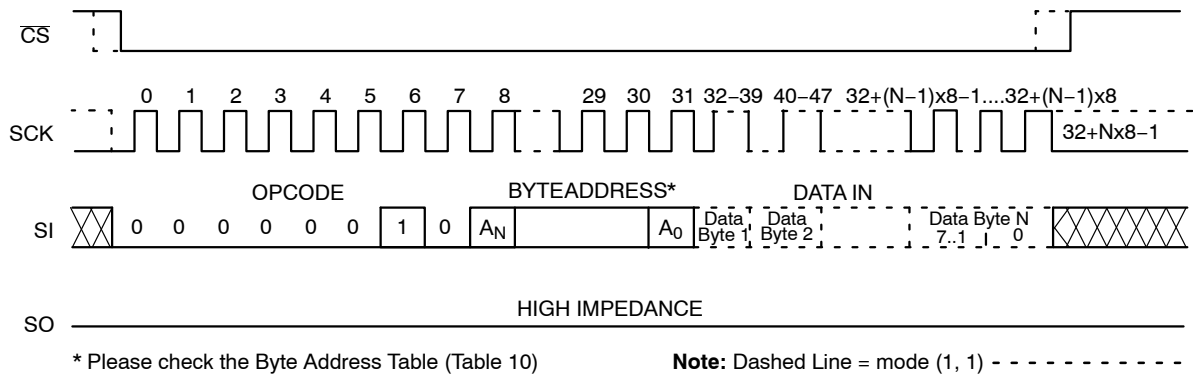

Figure 6. Page WRITE Timing
After sending the first data byte to the CAV25M02, the host may continue sending data, up to a total of 256 bytes, according to timing shown in Figure 6. After each data byte, the lower order address bits are automatically incremented, while the higher order address bits (page address) remain unchanged. If during this process the end of page is exceeded, then loading will “roll over” to the first byte in the page, thus possibly overwriting previously loaded data.
The 256-byte Identification Page (IP) can be written with user data using the same Write commands sequence as used for Page Write to the main memory array (Figure 6). **The IPL bit must be set (IPL = 1) using the WRSR instruction, before attempting to write to the IP. Prior to any write to the Identification Page, the Write Enable Latch must be set (WEL=1) by sending the WREN instruction.**